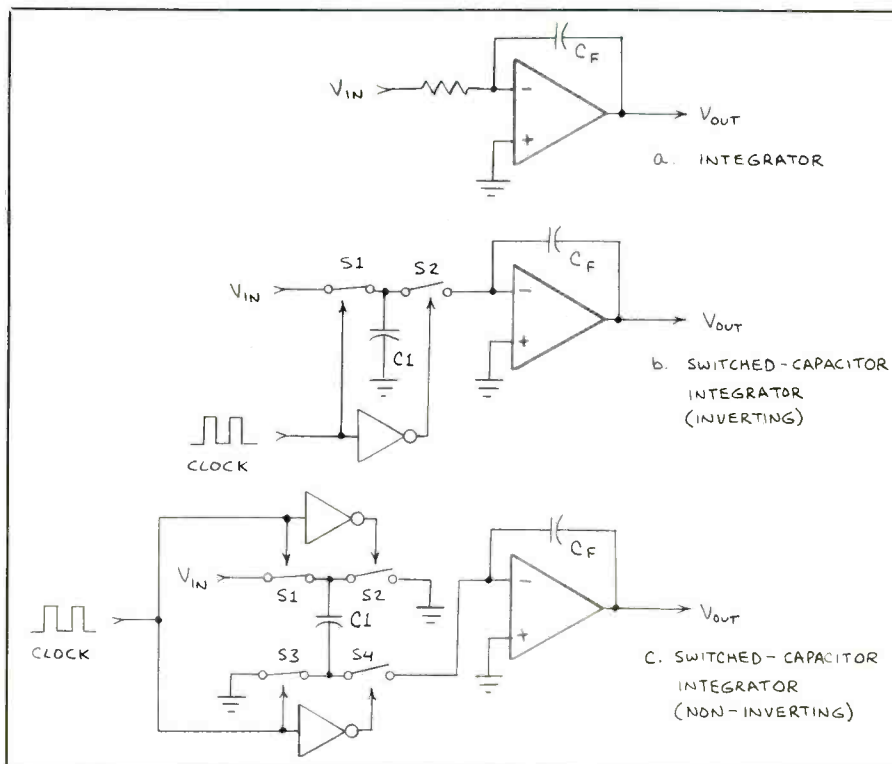

Fig. 2. Drawings illustrates evolution of the switched-capacitor integrator.
Figure 2(A) depicts an active integrator made from an operational amplifier and a single capacitor and resistor. The switched-capacitor filter uses an integrator in which the resistor is replaced by a capacitor, as shown in Fig. 2(B).
How a capacitor can perform the job of a resistor is interesting. Referring to Fig. 2(B), note that the input and output of a digital inverter are connected, respectively, to analog switches $S1$ and $S2$. When an external clock signal is applied to the input of the inverter, $S1$ and $S2$ are alternately opened and closed. When $S1$ is closed, $C1$ charges to the input voltage. When $S2$ is closed, the voltage on $C1$ is transferred to the input of the operational amplifier. In other words, switching $C1$ alternately between the signal input and the amplifier input allows the circuit to function as if a resistor were connected directly between the signal input and the amplifier. It is this switching action that gives the filter its name.
The integrators in the MF10 are inverting. Therefore, to preserve the polarity of the input signal as it passes through the filter, it's necessary to add a second pair of analog switches as shown in Fig. 2(C). When $S1$ and $S3$ are closed, the upper plate of $C1$ is positive with respect to the lower plate (ground). When $S2$ and $S4$ are closed, the upper plate of $C1$ is grounded.